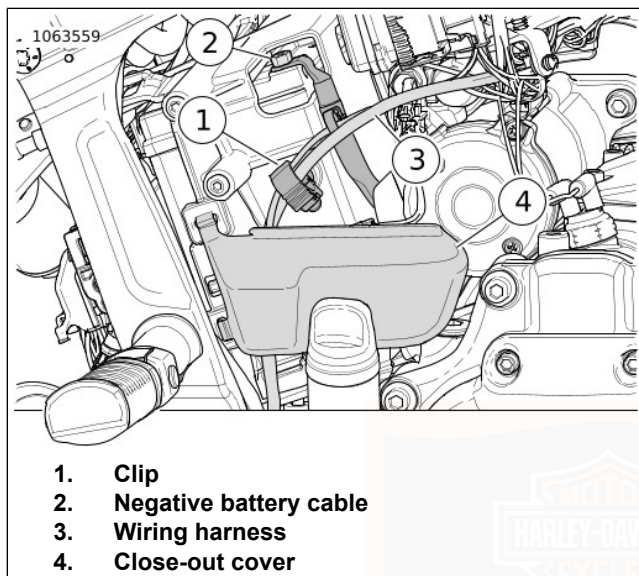
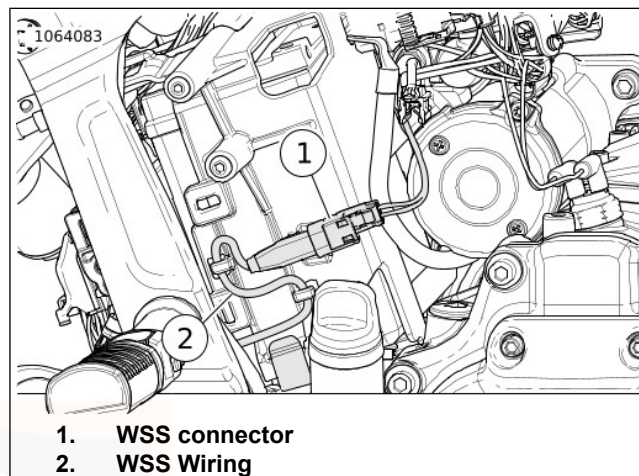
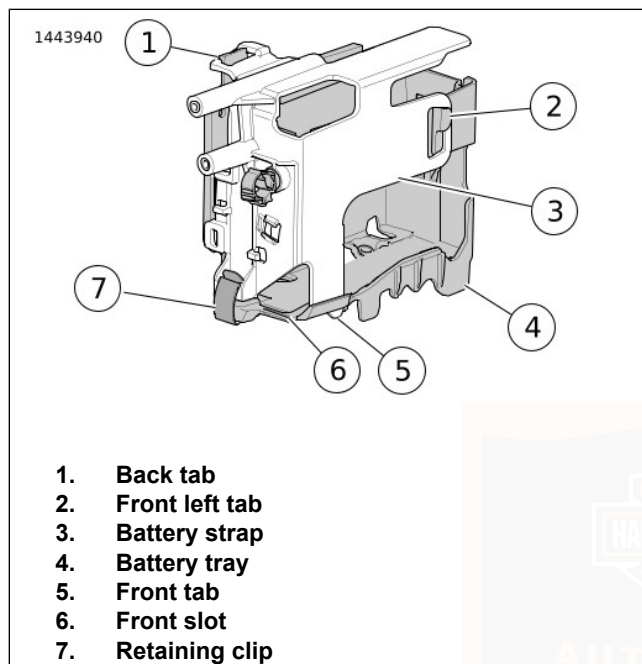

Figure 73. Negative Battery Cable and Close-Out Cover
Figure 74. WSS and Wiring
Figure 75. Battery Strap and Tray: (Removed for clarity)
3. See Figure 73. Disconnect negative battery cable (2).
4. Remove close-out cover (4).
5. Open clip (1) and position wiring harness (3) out of the way.
6. See Figure 74. Disconnect Wheel Speed Sensor (WSS) connector (1).
7. Remove WSS wiring (2) from routing tabs then remove wiring from battery strap.
8. See Figure 75. Remove battery strap.
- a. Unlock retaining clip (7).
- b. Disconnect back tab (1) from battery strap (3) to battery tray (4).
- c. Disconnect front left tab (2) from battery strap to battery tray.
1. See Figure 75. Install battery into battery tray (4).
4. Install battery strap (3).
- b. Connect front left tab (2) on battery strap to battery tray.
- c. Connect back tab (1) on battery strap to battery tray.
- d. Lock retaining clip (7).
5. See Figure 74. Install WSS wiring (2) to battery strap.
6. Connect WSS connector (1).
7. See Figure 73. Position wiring harnesses (3) and lock clip (1).
8. Connect negative battery cable (2) to negative battery terminal. Tighten. 8.1–10.8 N·m (72–96 **in-lbs**)
9. Install close-out cover (4).